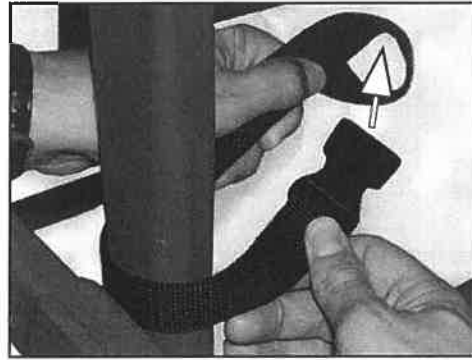

Figure 4 - Threading Buckle Through Loop
2. Wrap a strap around one front leg of the chair and thread the buckle through the loop (Figure 4).